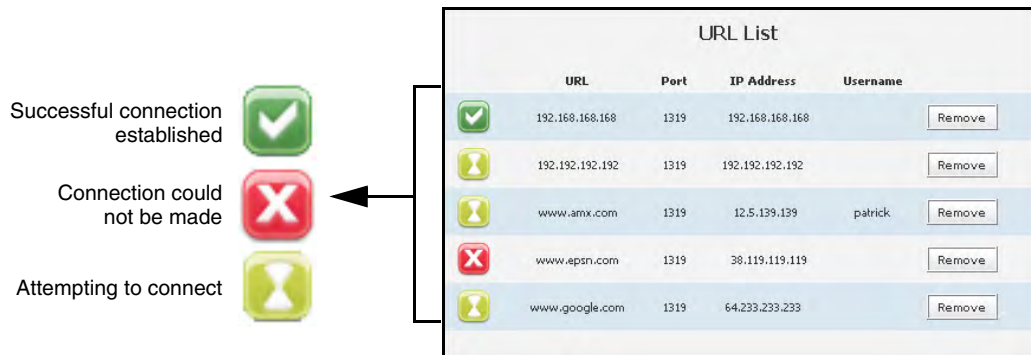

FIG. 69 URL List dialog (with entries)
10. Confirm your newly added URLs appear within the URL List dialog (FIG. 69).
- Remove an individual URL entry by pressing the **Remove** button on that URL's row listing within the URL List dialog (FIG. 69).